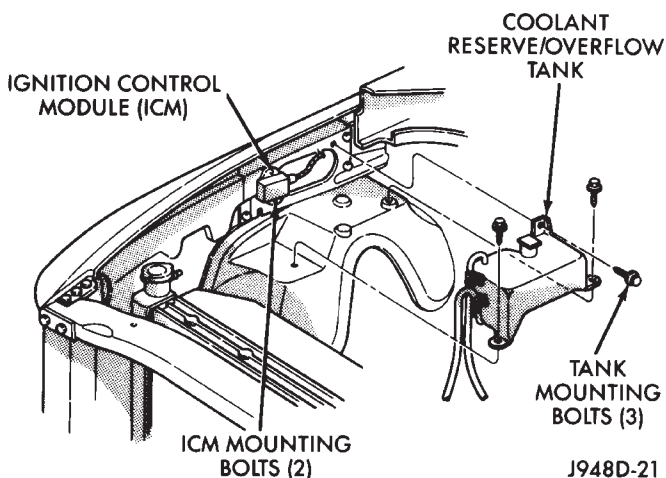

Fig. 37 COOLANT RESERVE/OVERFLOW TANK—V-10 ENGINE
- (1) Remove overflow hose from radiator.
- (2) Remove three tank mounting bolts (Fig. 37) and remove tank.